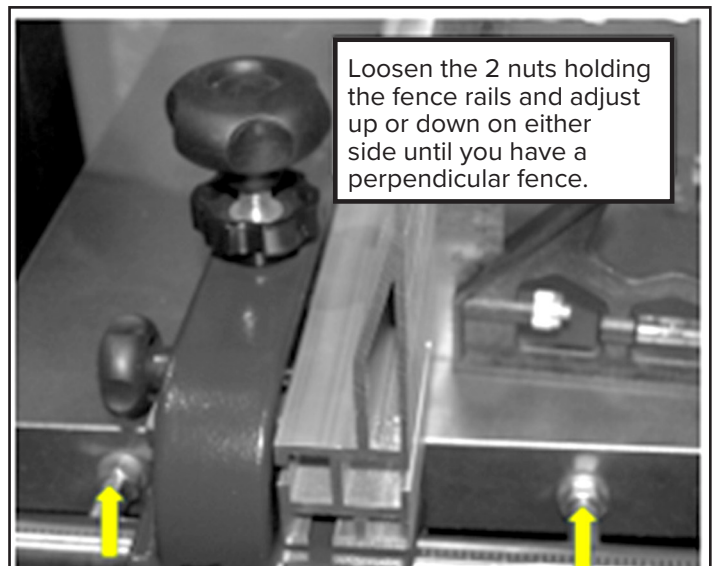

Figure 28: Fence Perpendicular Adjustment
2. If adjustment is required, loosen the Fence Rail Nuts Fig. 28.